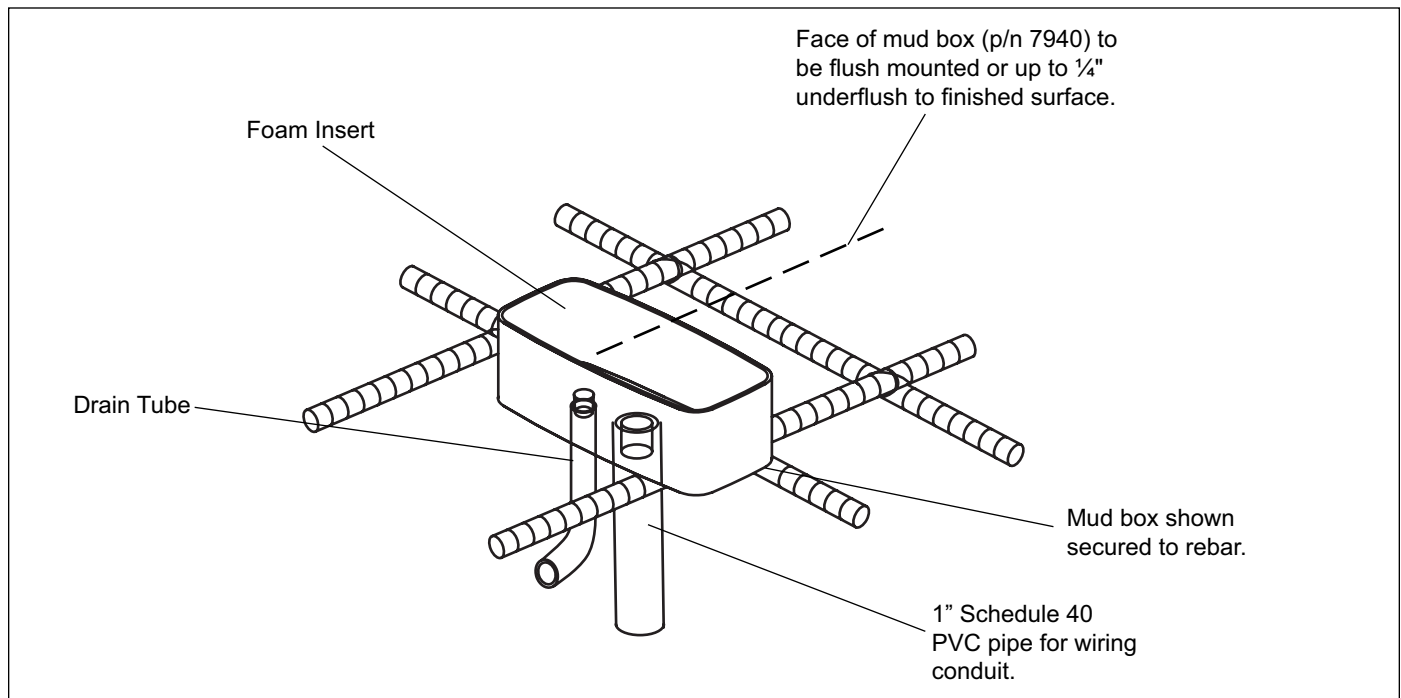

Figure 7. Horizontal Surface Rough-in Installation
4. Apply a $\frac{1}{4}$ " to $\frac{3}{8}$ " diameter bead of silicone sealant around the mud box. Position and secure the mud box in place. Figure 7 shows mud box secured to rebar.